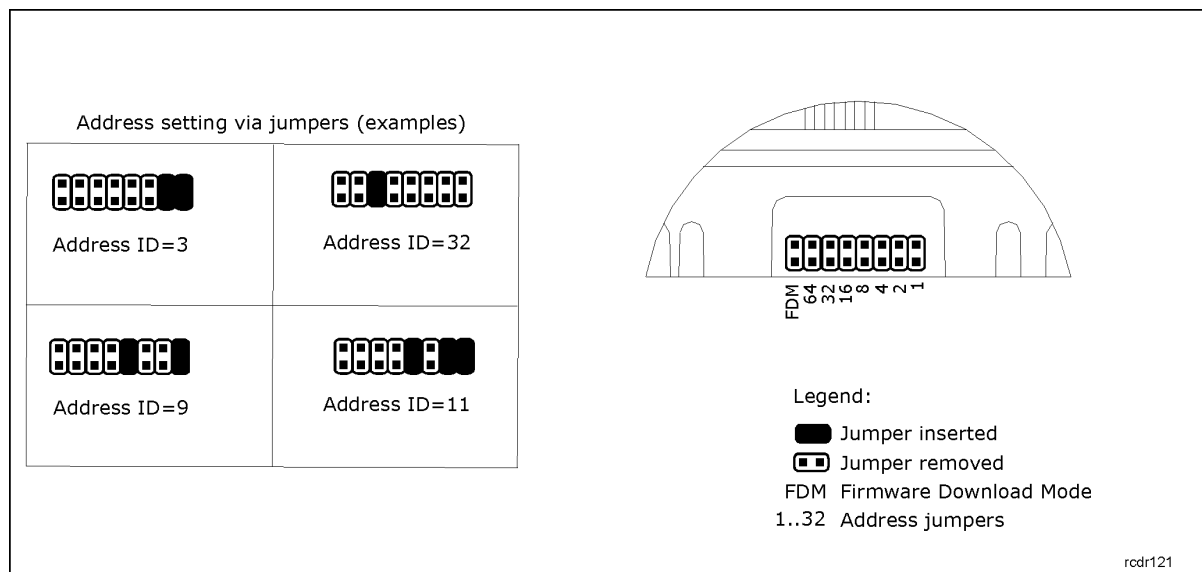

Fig. 12 Addressing jumpers
The address of controller can be set by means of jumpers – see fig. 12. Each time the new address is configured, controller must be restarted (via RESET button or powering device off and on) to make new settings valid. The address range is 00...127 and if the address is in range 100...127 then the controller ignores such setting, and all other addressing methods can be used. If the address is in range of 00...99 then it has the highest priority, FixedID is not effective, and the address cannot be changed by PR Master software nor manually during Memory Reset procedure.
- Place jumper on FDM pins (see fig. 12)